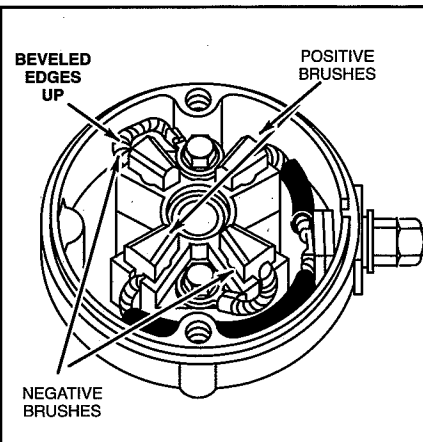

Fig. 28 – Brush Position
1. Install brushes with beveled edge up in position shown, Fig. 28